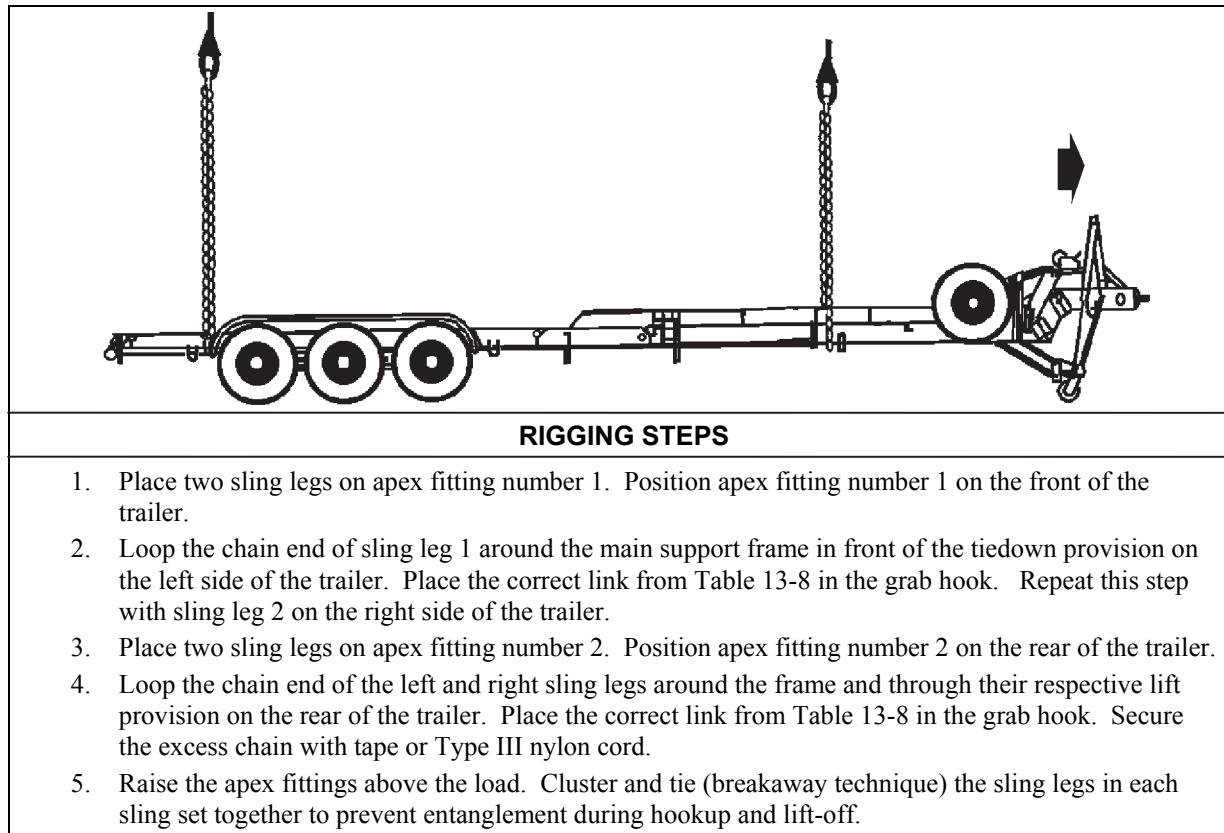

Figure 13-8. Special Operations Craft-Riverine and Naval Special Warfare Rigid Inflatable Boat Trailer
- **Rigging.** Rig the load according to the steps in Figure 13-8.